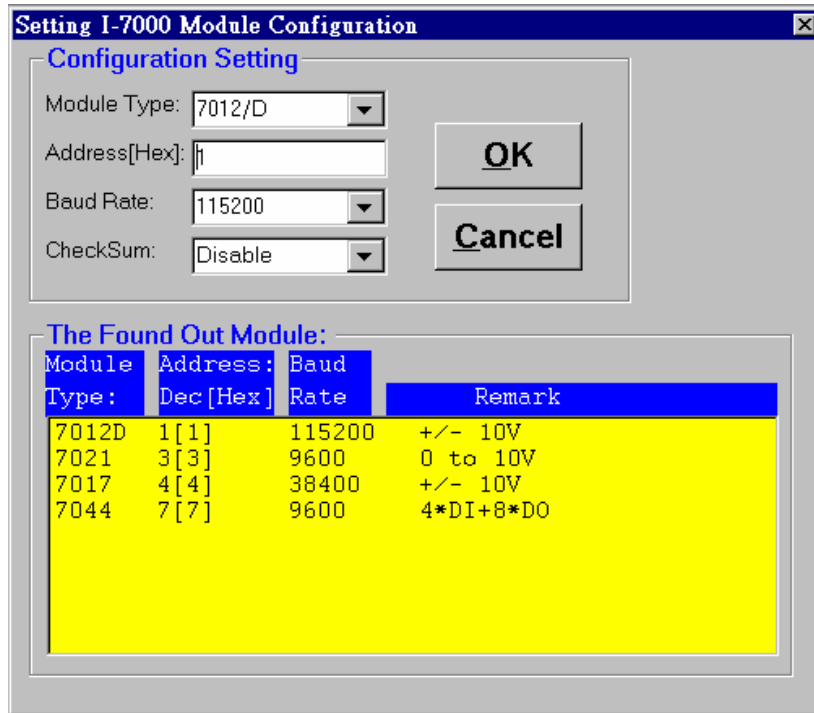
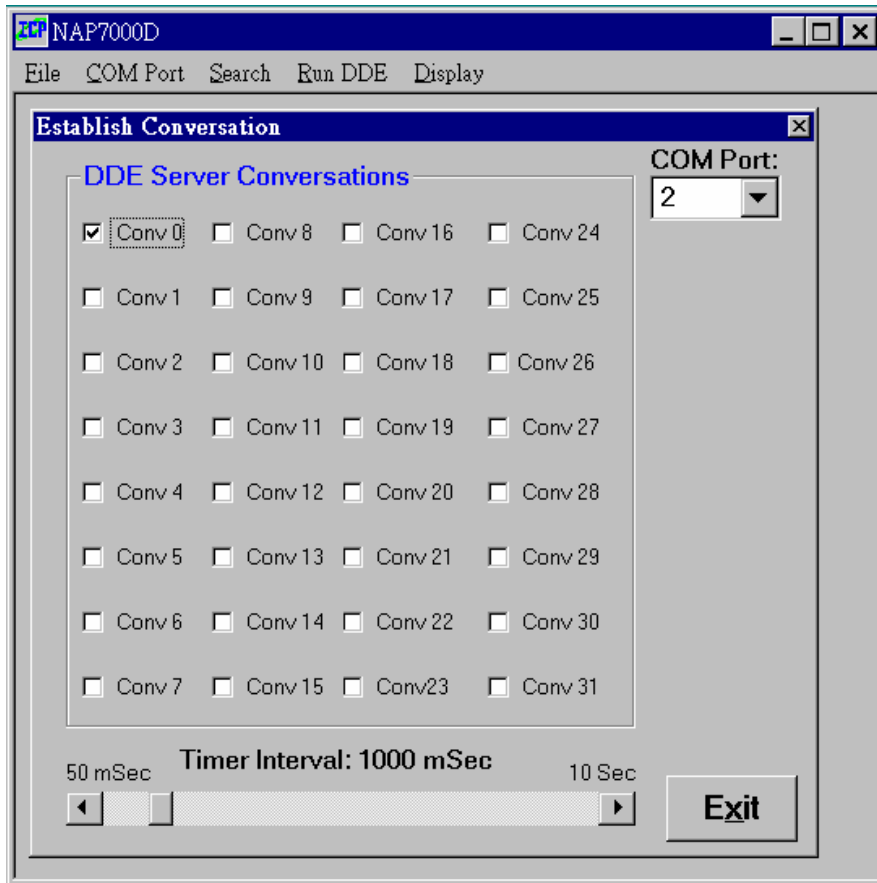

Fig 2-11 After setting the module configuration.
Fig 2-12 The main window for NAP7000D when completing a setting.
After about five steps, the setting window shown as Fig 2-11.
Step 6: when Fig 2-11 display, click **OK** button to accept the setting or click **Cancel** button to cancel the setting. After **OK** button is clicked, the main window of NAP7000D display as Fig 2-12 to tell the user these setting step is completed..